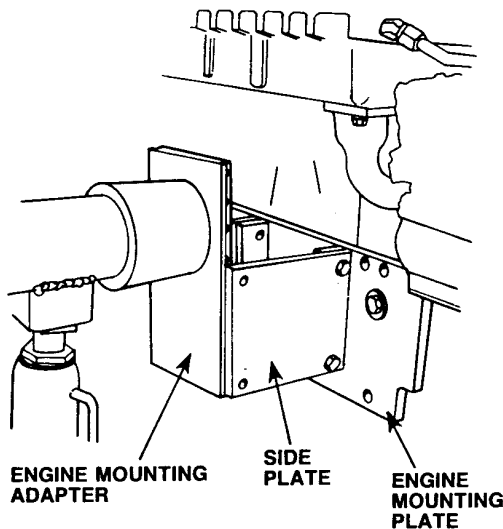

FIGURE 5
- Do not exceed the maximum rated capacity of 6,000 lbs. (2,725 kg). The maximum capacity is determined with the center of the engine located not more than 13" from the mounting hub surface of the engine stand. See Figure 5.